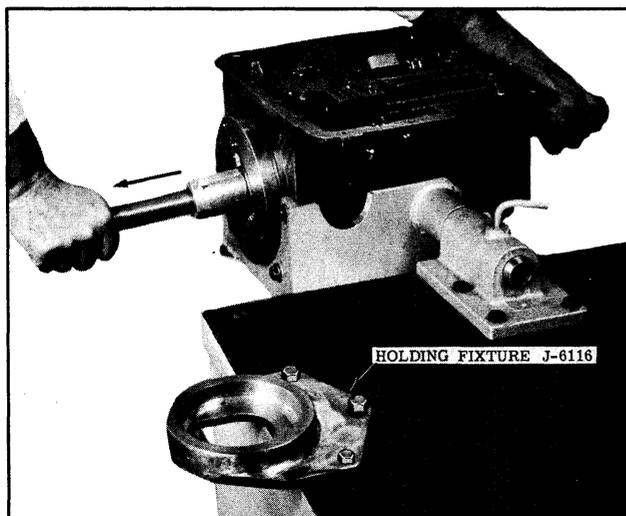

Fig. 3-42 Removing Case Support, Neutral Clutch & Rear Unit
3. Remove the case support, neutral clutch and rear unit as an assembly by sliding toward front of case while rocking the assembly to prevent the case support from binding. (See Fig. 3-42)